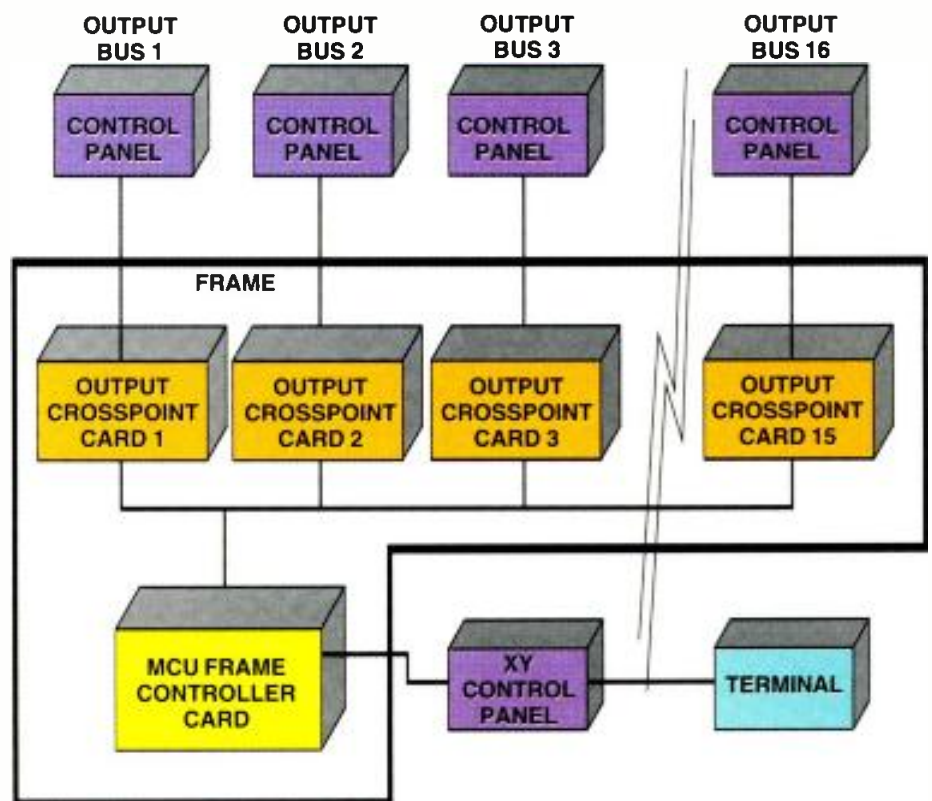

Figure 1. A block diagram of the Sierra Automated Systems routing switcher.
The graph in Figure 1 shows the effects of leakage. If the fundamental was at 585.94Hz, a single line at bin 100 with no energy in adjacent bins would result.
**Figure 1.** The 588.87Hz fundamental frequency in this computer model does not correspond exactly to an FFT bin. The result is leakage that provides a misleading noise floor display.